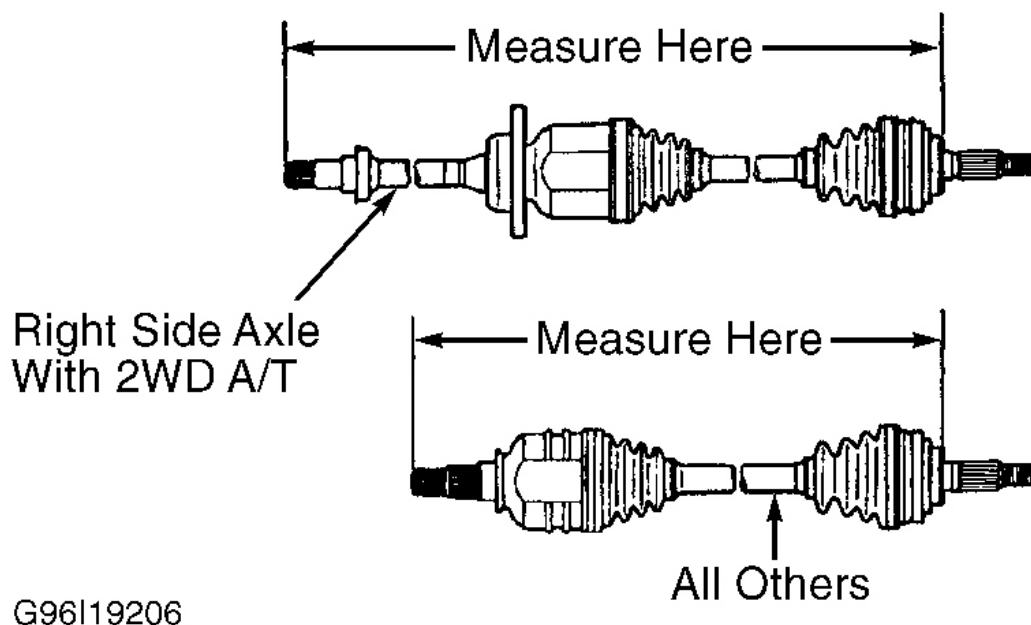

Fig. 7: Measuring Axle Shaft Length (Front)
7. Install boot on inboard joint cover. Ensure boots are seated in grooves on axle shaft. Adjust axle shaft to standard axle shaft length. See **AXLE SHAFT LENGTH SPECIFICATIONS** . See **Fig. 7** . Install and tighten boot clamps.
5. Apply grease supplied with overhaul kit into outer joint and boot. Install boot on inner housing and outer joint. Ensure boots are seated in grooves on axle shaft. Adjust axle shaft to standard axle shaft length. See **AXLE SHAFT LENGTH SPECIFICATIONS** . See **Fig. 7** . Install and tighten boot clamps to a clearance of .047-.157" (1.2-4.0 mm).
(1) Measure axle shaft length between inner joint flange and outer joint flange. See Fig. 7 .